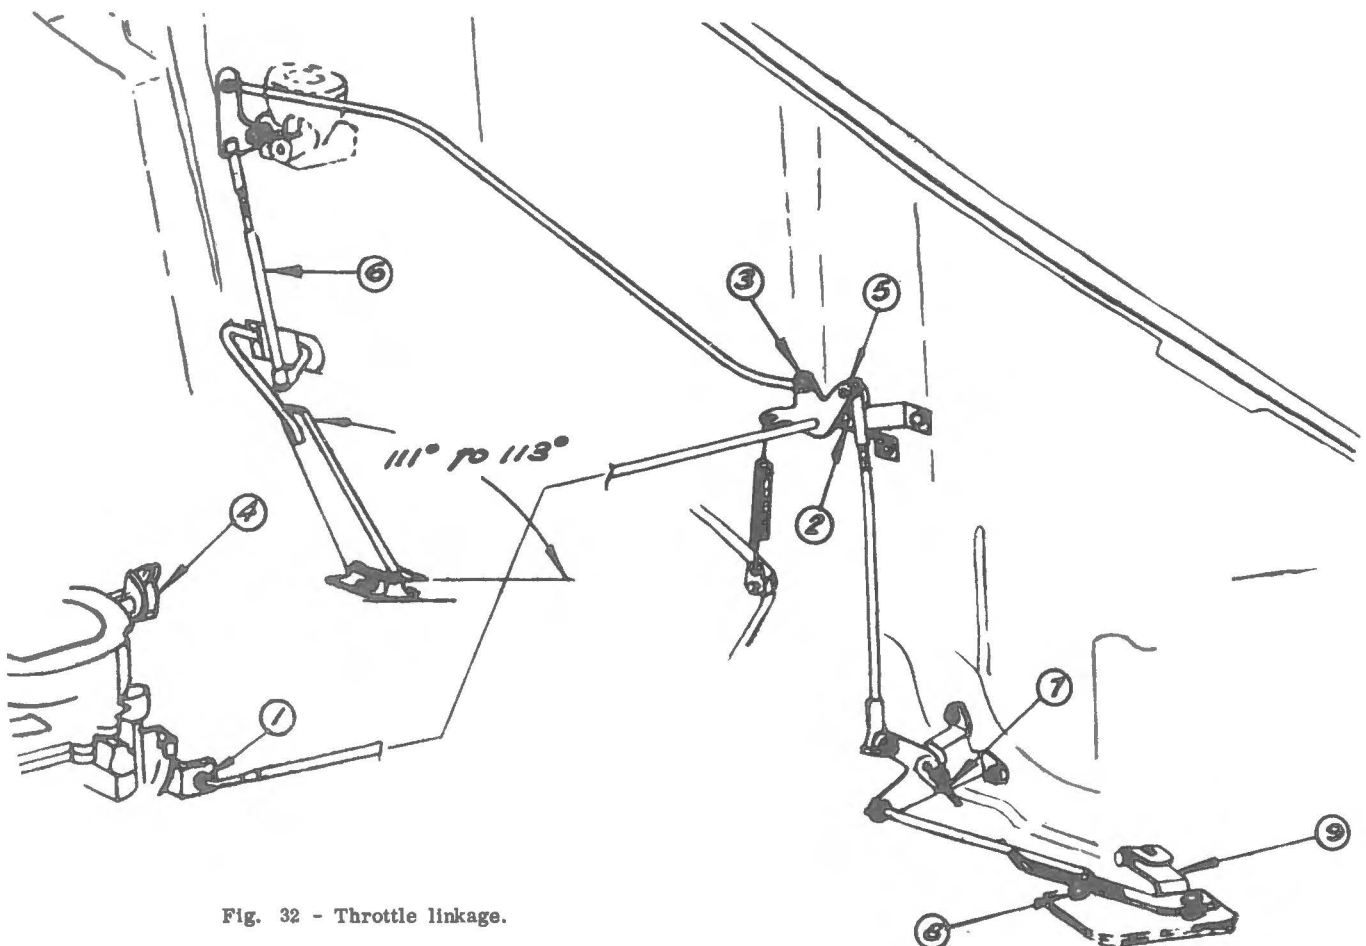

Fig. 32 - Throttle linkage.
**Manual Transmission** (Refer Fig. 32)
(1) Disconnect the choke at carburettor (4) or block choke valve in full open position. Open throttle slightly to release fast idle cam, then return throttle to curb idle.
(2) Disconnect top end of accelerator shaft to bellcrank rod (6). Adjust the length of this rod to provide correct pedal angle